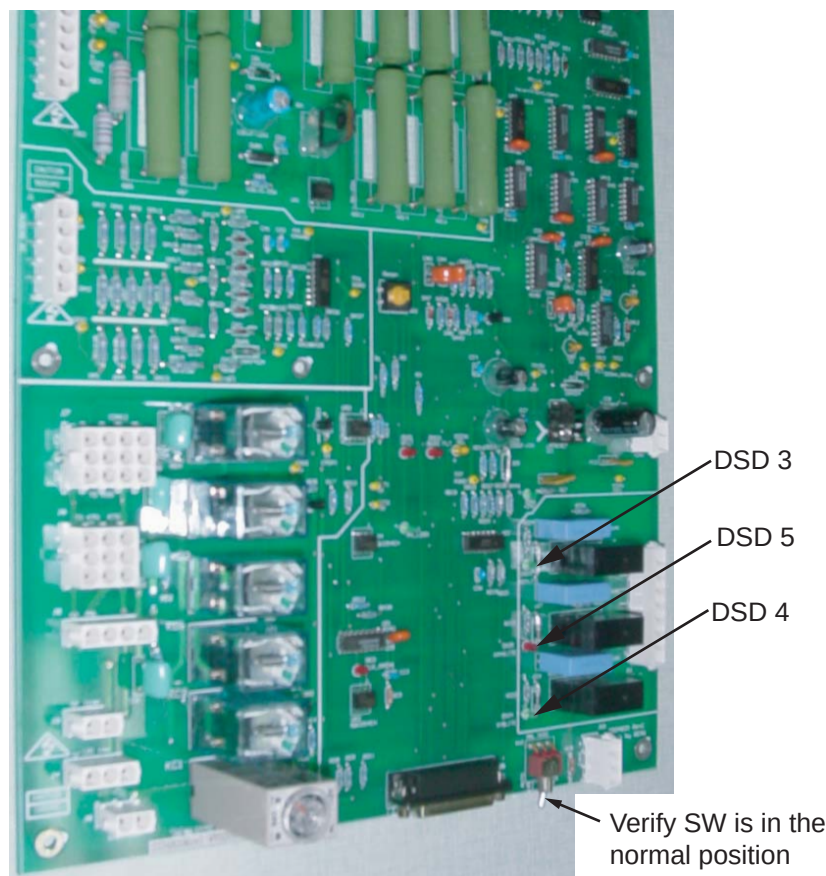

Figure 5-2 NGPDU Control Board
- 2.) When the system is powered, three lamps should be "ON". (Refer to Figure 5-2.)